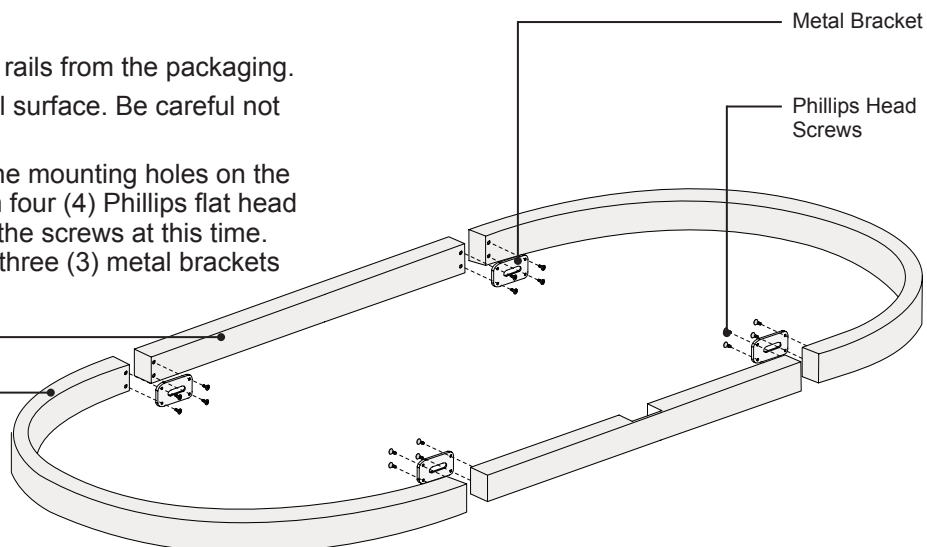

Figure 13. Wood Frame Assembly
- 3 Place one (1) metal bracket over the mounting holes on the frame rails. Insert and fingertighten four (4) Phillips flat head screws. Do not completely tighten the screws at this time. Repeat this step for the remaining three (3) metal brackets (Figure 13).